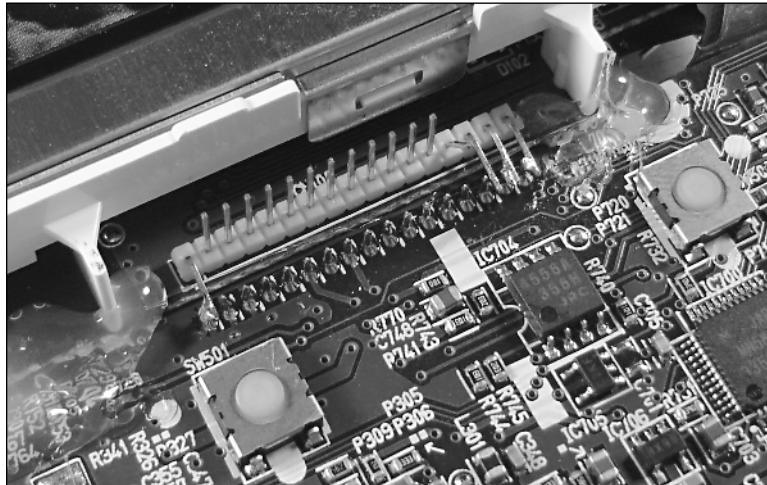

FIGURE 4-17: Bending pins and soldering them in place.
3. Once all seventeen connections are bent, carefully solder each pin to each lead. (See Figure 4-17.) Make sure each pin has a sufficient amount of solder connecting it to its lead. There should be little blobs of solder on each lead, not just some "painted on" solder. Solder is like wire—if it's not thick enough, current can't flow through it correctly. Also, thin strands of solder can break, especially in this situation.